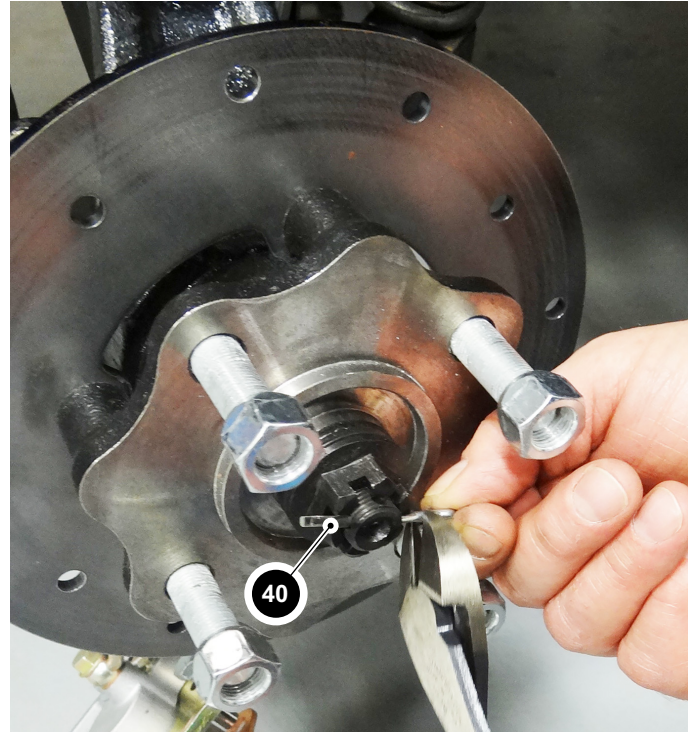
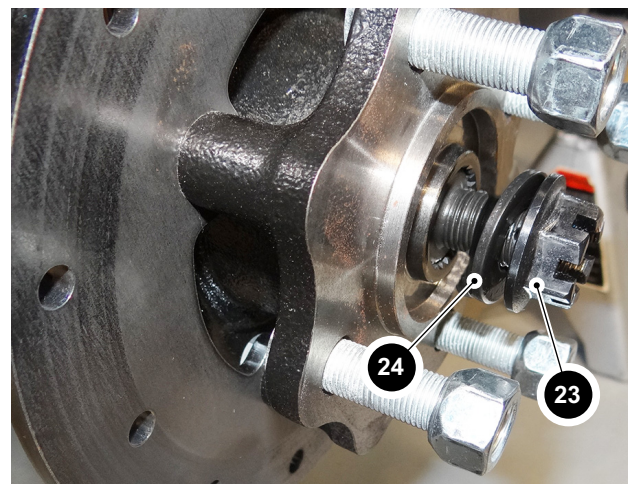

Fig. 2 Remove Cotter Pin
Fig. 3 Remove Axle Nut and Washers
4. At the center of the hub, remove the cotter pin (40), axle nut (23) and washer (24) from the axle (Ref. Fig. 2)(Ref. Fig. 3).